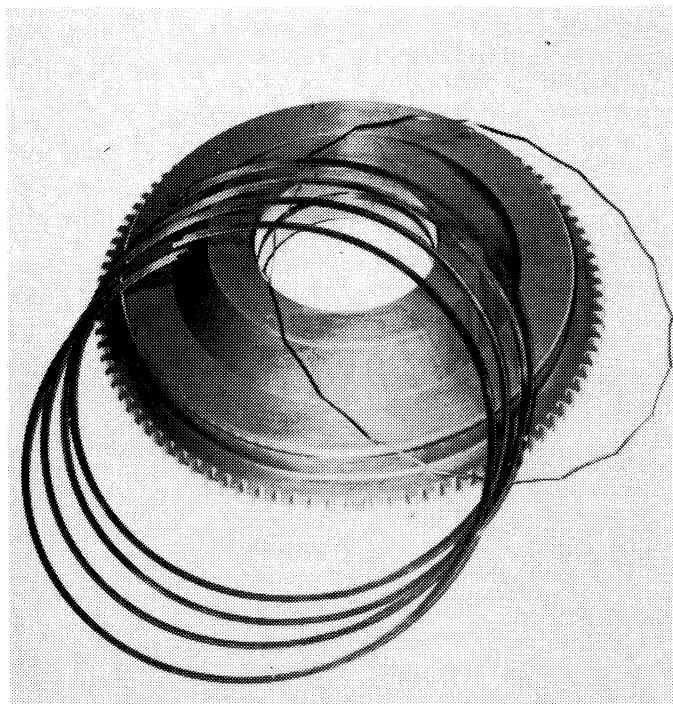

Figure 6-18. Clutch Piston and Seal Ring Removed.
18. Remove the clutch piston. See Figure 6-18.
19. Remove the seal rings from the outside diameter of the pistons. See Figure 6-18.